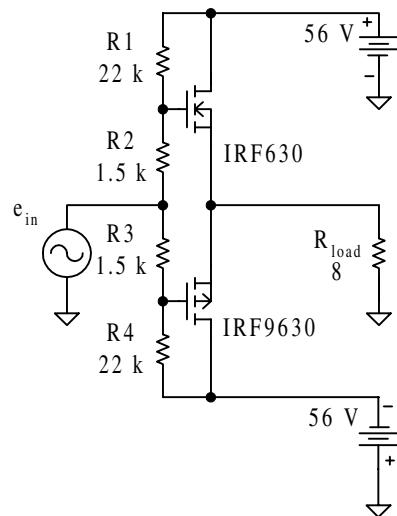

Figure 5-17 Class B push-pull amplifier schematic
The combined push-pull (*n*-channel and *p*-channel) amplifier is shown in Figure 5-17. The performance and all of the calculations are just as you saw in Example 5-5. Each transistor is biased to the *edge* of conduction. But neither is on, so no dc current flows through the load, and it does not have to dissipate power just for the transistors to be properly biased.
The *n*-channel transistor has been changed from the IRF530 to the IRF630. In the push-pull amplifier of Figure 5-17, the *p*-channel may drive the load (and therefore the source of the *n*-channel transistor) to almost -56 V . With $+56\text{ V}$ on its drain, the *n*-channel transistor must have a rated maximum V_{DS} of over 112 V. The IRF630 (*n*-channel)/IRF9630 (*p*-channel) transistors each have a maximum drain voltage of 200 V.
The class A amplifier is so inefficient that it is impractical for use in delivering more than a few watts to a load. The class B amplifier solves this problem, allowing you to build a linear amplifier capable of providing hundreds of watts to the load. Even so, the simple class B amplifier of Figure 5-17 has several problems.
1. Calculate new values for R2 and R3 in Figure 5-17 to set the gate voltages at ± 2 V, at the bottom of the rated threshold voltage.